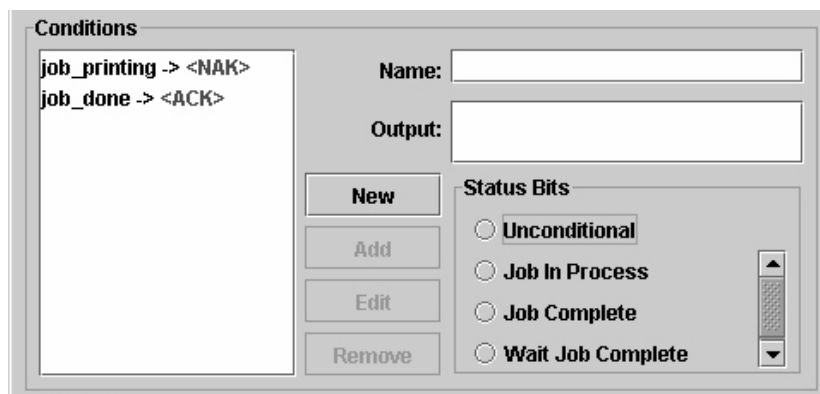

Figure 164. Adding Conditions
8. Click **Add** to add the entry to the list of protocol conditions. See Figure 164.